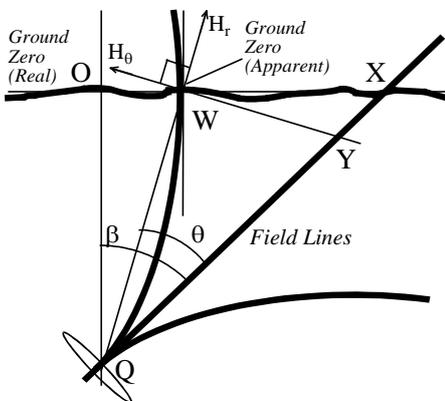

Figure 1 – field lines from a tilted loop.
In my articles on the accuracy of radiolocation I discussed the error that was introduced by the underground antenna not being horizontal. Figure 1 shows the field lines from a loop that is tilted by an angle β (which is exaggerated in the diagram). The axis of the loop, QX , when projected as far as the surface, will be displaced from ground-zero (O) by a small amount. For example, if β is 5° and $D = 50\text{m}$ then the displacement is around 4.4m .
Because of the curved nature of the field lines, the line that is vertical as it leaves the ground will be displaced by a smaller amount than the axial field line. This can easily be seen from Figure 1 where a curved field line leaves the ground vertically at W . Since it is this vertical field line which is used to determine ground-zero, the error in the measurement of ground-zero will not be as great as OX . In fact, for small values of β is it exactly a third as much. In other words, $OW = \frac{1}{3}OX$ – **the apparent Ground Zero is a third of the axial displacement from true Ground Zero.**
The radial field at point W is in the direction QW and the transverse field is at right angles to this, as shown in Figure 1. The angle between the radial field and vertical is $\beta - \theta$ so the overall vertical field is